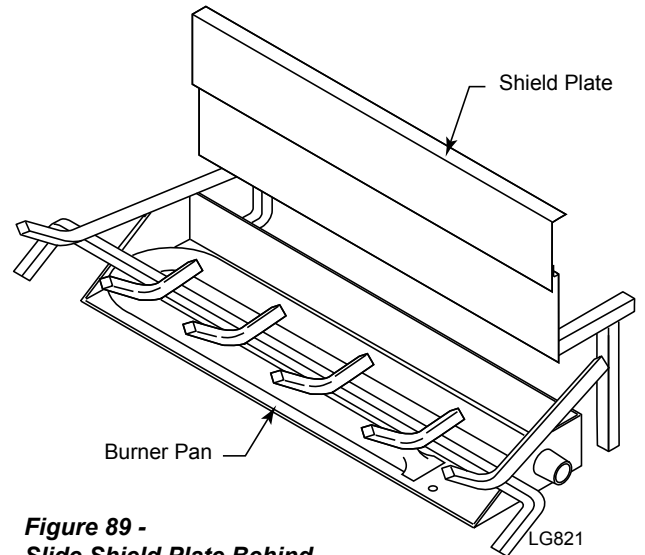

**Figure 87 -
9. Lay top center log #7 across log #3 with front end resting on Log #5. *Figure 87*
10. Place front end of top left log #8 on log #7. Allow back end of log #8 to rest on log #6. *Figure 87*